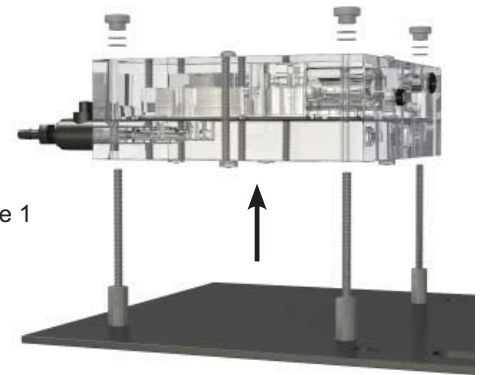

Figure 1
Step 6. Remove the flow cell from the panel by removing the knurled nuts (Figure 1).